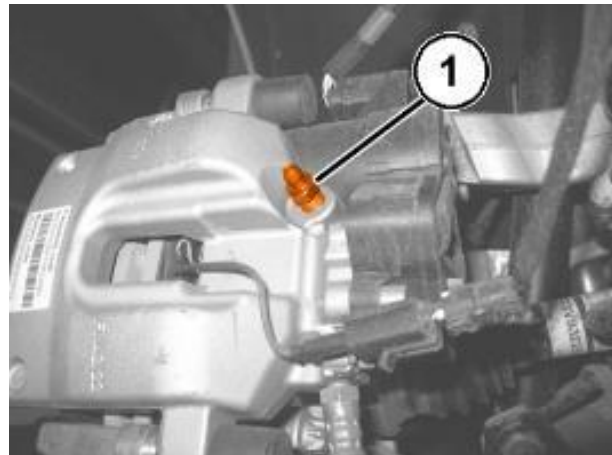

Figure 77 – Brake Bleeder Valve
118. Working at the right rear caliper, position the brake fluid recovery hose to the bleeder screw (1) and to the recovery container. Open the bleeder screw (1) and without applying any pedal pressure on the system, allow a small amount of brake fluid to drain into the recovery container. Then tighten the bleeder screw and remove the recovery hose (Figure 77).
123. Connect the pipe to the valve of the rear right brake caliper. Open the valve, slowly press the brake pedal down fully three or more times, until there are no more air bubbles in the hose through which the oil flows into the container. Tighten the bleed valve to the prescribed torque of 10 N·m (89 In. lbs.) (Figure 77).